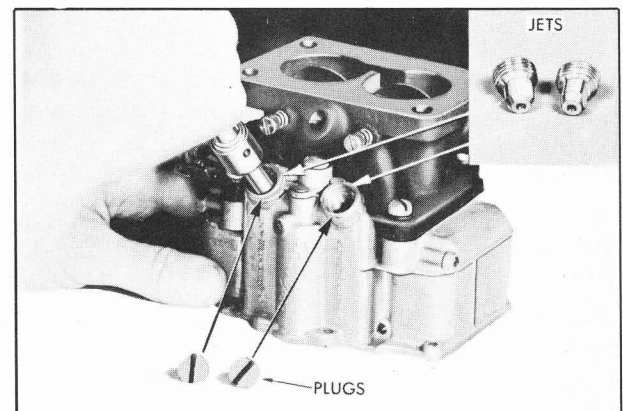

Figure 3-82—Removing Main Metering Jets
13. Remove main discharge jet plugs and gaskets, then remove main metering jets. See figure 3-82.
8. Install main metering jets, using Wrench T-24924. See figure 3-82. Install main discharge jet plugs, using new copper plug gaskets if available; otherwise make sure that plugs and seats are clean to insure tight joint.